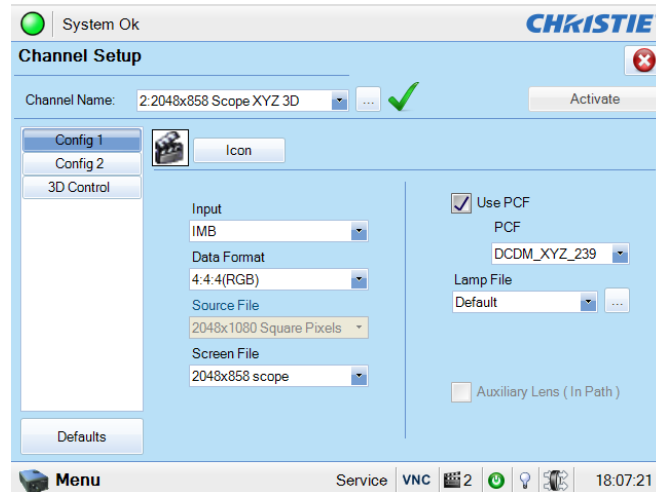

Figure 35 Projector input settings for Christie projectors
2. Clear the Service Door/Marriage Tamper on the server (refer to Section 6.3 / Page 13). All 3D IMB channels on the Christie Series 2 projector should use the 'IMB' input and '4:4:4 (RGB)' input data format (see Figure 35).